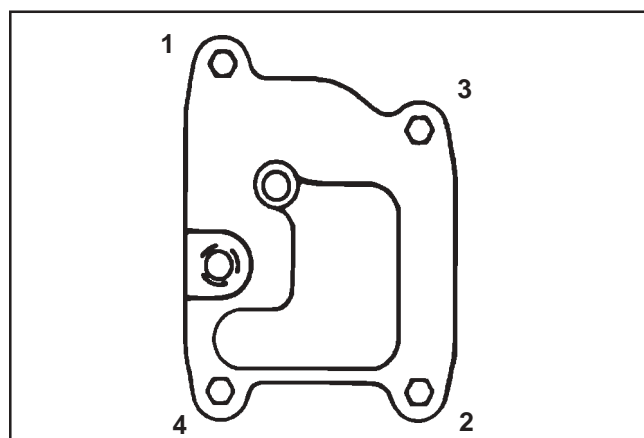

Figure 11-62. Breather Cover Fastener Torque Sequence.
6. Torque the four breather cover screws to **7.3 N·m (65 in. lb.)** in the sequence shown in Figure 11-62.